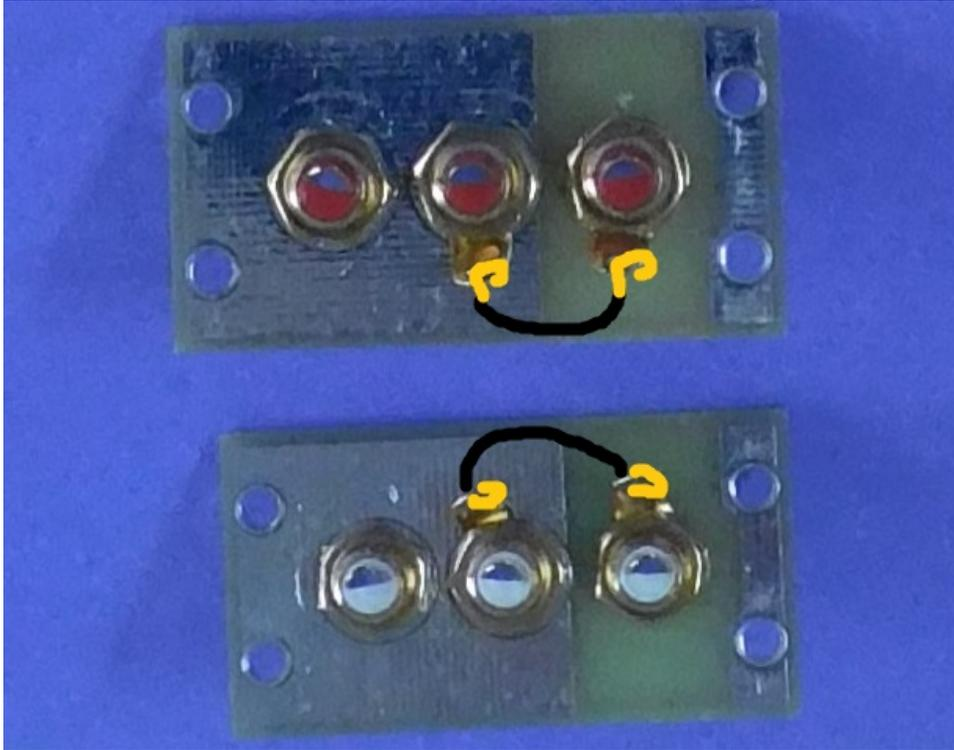

Figure 6-ground straps for PC-20 and PC-21 version of FM-5
1. Cut a two 1.25" lengths of black wire. Strip $\frac{1}{4}$ " of insulation from all four ends. Form the bare ends into hooks. Slip those hooks into the ground lugs as shown in Figure 6-ground straps for PC-20 and PC-21 version of FM-5.